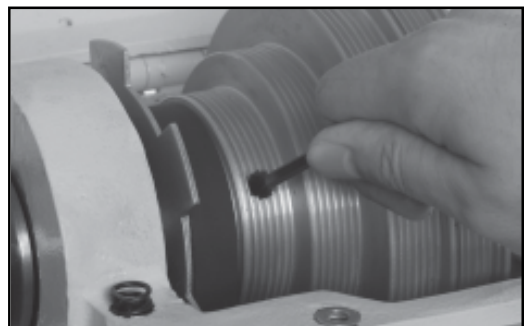

Fig.40
- 10.) Remove the two grub screws from the headstock pulley. (See Fig.40)